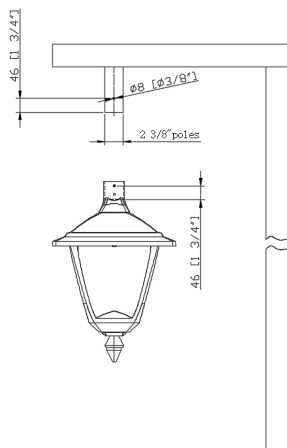

Fig.6
1. Drill holes in the pole according to the diagram, as shown in Fig.6.